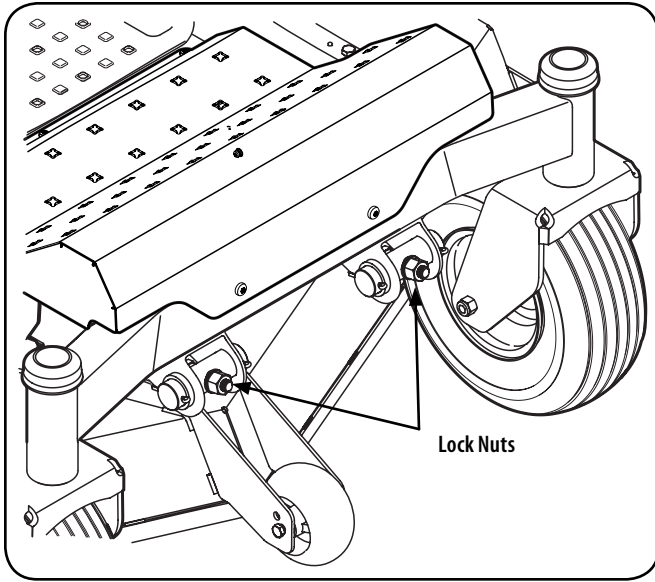

Figure 33
5. Using a wrench, raise or lower the front of deck by turning lock nut on the front deck lift rod and secure with the rear jam nuts. See Figure 33.